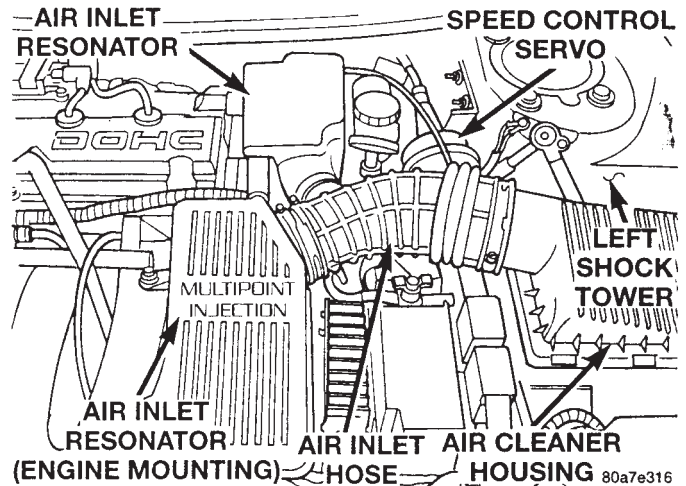

Fig. 92 Air Inlet Resonator And Tube
(5) Remove the air inlet resonator and air inlet hose (Fig. 92) as an assembly, from the engine mounted air inlet resonator and air cleaner housing (Fig. 92).
(13) Install the air inlet resonator and air inlet tube (Fig. 92) on the air cleaner housing and the throttle body.
(14) Check brake light switch for correct adjustment. If required, adjust stop lamp switch as necessary. See required procedure in the Service Adjustments Section in this group of the service manual.
(15) Road test vehicle to ensure proper operation of the vehicles brake system.